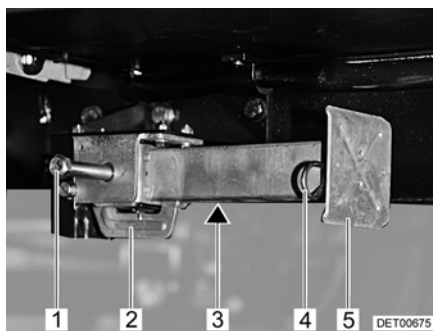

Fig. 15 Steady leg
- Place the socket spanner on the hexagon nut (Fig. 15,1) and rotate until the steady leg is in a perpendicular downward position.
- If the length of the steady leg can be adjusted, remove the splint (Fig. 15,4) out of the support foot extension (Fig. 15,5).
- Place the socket spanner on the hexagon nut (Fig. 15,1) and rotate until the steady leg is clear of the ground.
- Push in the support foot extension (Fig. 15,5) and insert the splint (Fig. 15,4) in the drilled hole in the support foot extension.
- Rotate the hexagonal nut (Fig. 15,1) until the steady leg has swung upwards and the guide (Fig. 15,2) has reached the very end of the slot (Fig. 15,3).